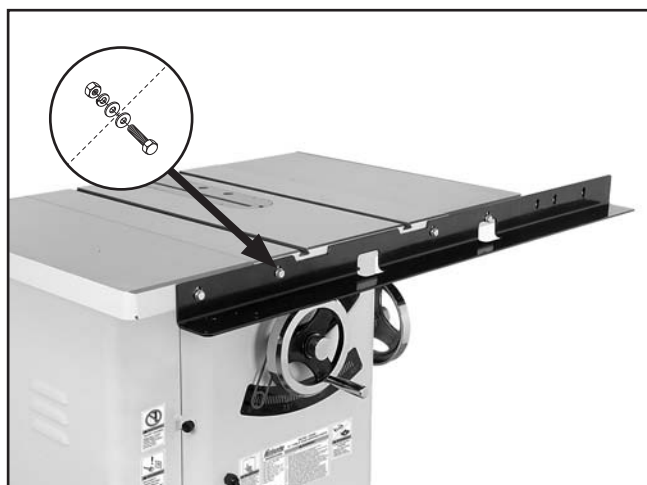

Figure 19. Front rail installed (Model G0690 shown).
10. Install the front rail onto the table and extension wings with four M8-1.25 x 40 hex bolts, eight 8mm flat washers, four 8mm lock washers, and four M8-1.25 hex nuts, as shown in **Figure 19**.